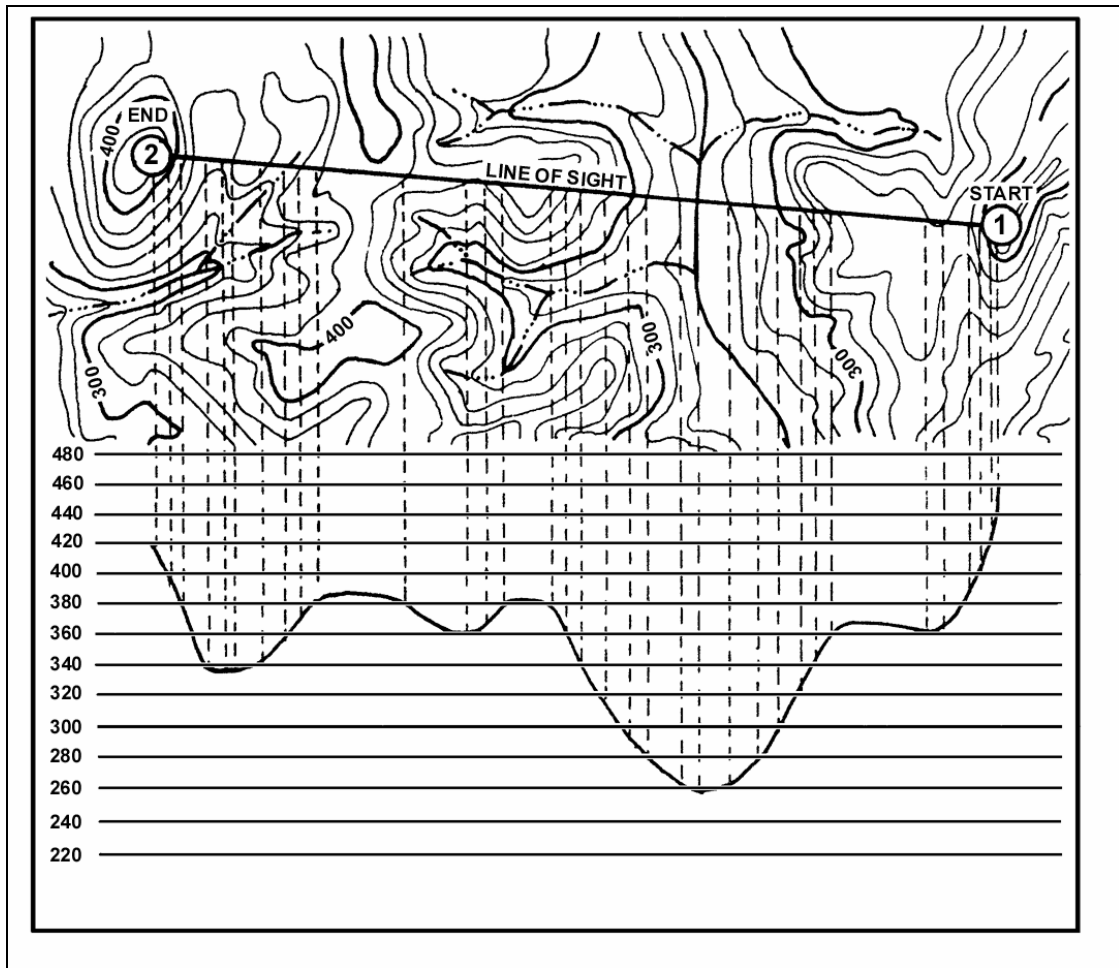

Figure 5-27. Marking of elevation.
(1) Place the edge of a lined piece of paper along the profile line. Tick-mark all points of known elevation on the edge of the paper. These points are the contour lines. Any paper with evenly spaced horizontal lines, such as graph or notebook paper, may be used. The wider the spacing of the lines, the greater the vertical exaggeration in the profile; however this does not affect the information.
(2) Draw perpendicular lines, down across the horizontal lines for each marked point, and identify the high and low points along the profile (Figure 5-27).